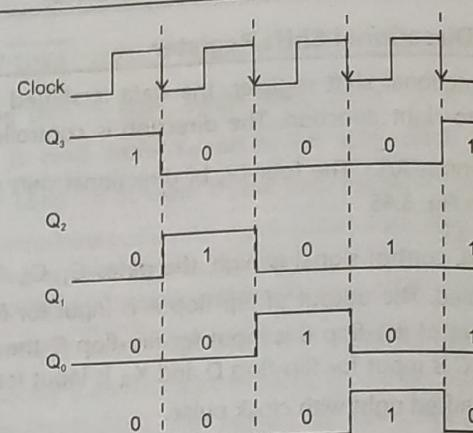

Fig. 3.50 : Waveforms of ring counter
- The n-bit ring counter counts n clock pulses, therefore the circuit shown in Fig. 3.50 counts four clock pulses.
- From table 3.26 it is clear that the number of distinct states in the operation of this counter is four. Therefore, it is a mod - 4 counter. In general n-bit ring counter is mod- n counter. The waveforms are as shown in Fig. 3.50.